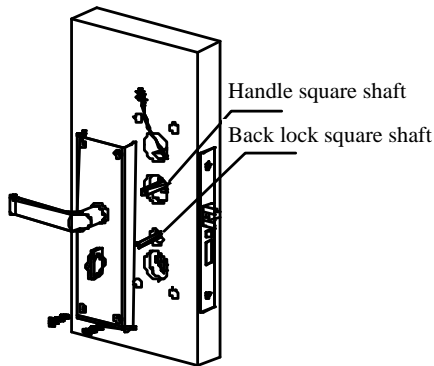

Figure 14
14) Install handle square shaft and double lock square shaft into the lock body's square holes, put the backboard near the installation area, then foist handle and double lock's shaft into handle and double lock button. Show as Figure 14.